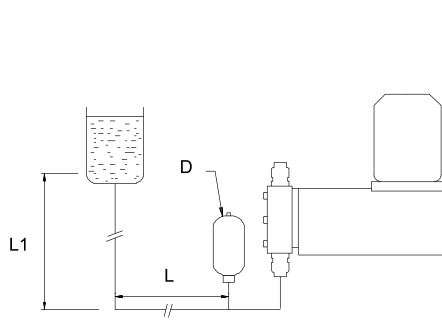

Fig.2
Fig.2: The pump in suction placed above the tank ( $H_a$  = maximum 2.5 m water column) is equipped with a foot valve fitted at the suction end (F). Vertical suction.